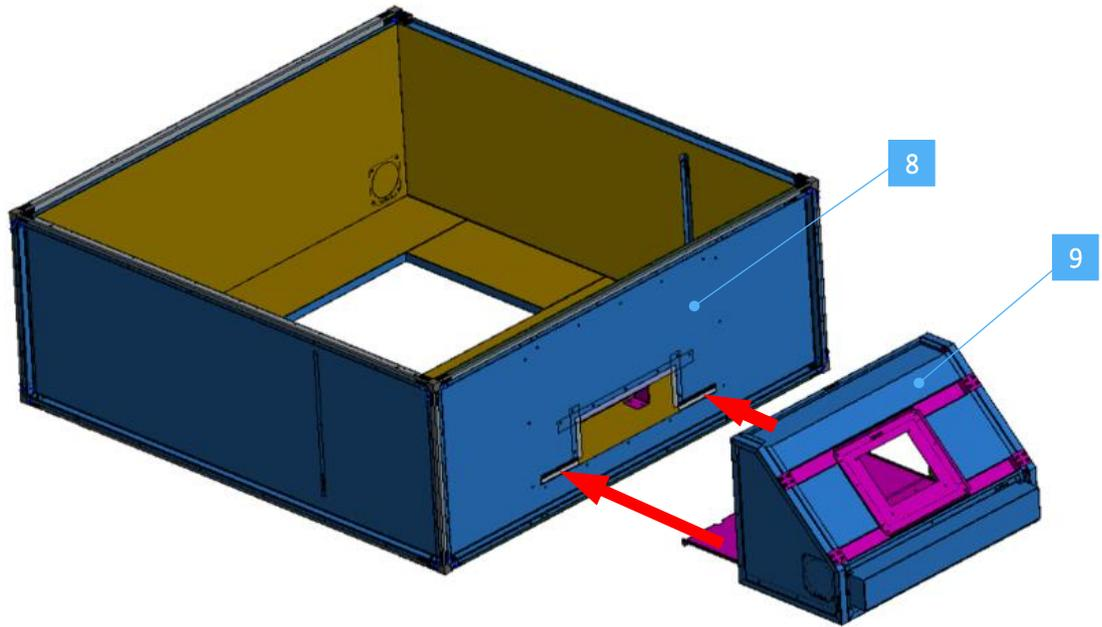

Fig. 8 Ensemble assembly.
- 5 Insert the protruding part of the headlight assembly [9] into the appropriate opening in the front panel [8] (red arrows in figure 8) and fix them using the supplied M5 screws.